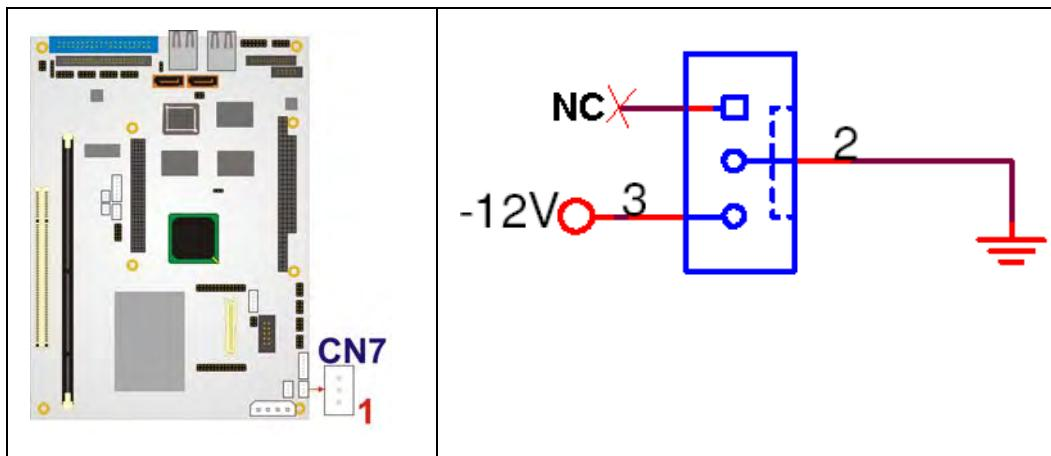

Figure 3-4: -12V Power Supply Connector Location
CN Location: See **Figure 3-4**
- CN Location:** See **Figure 3-4**